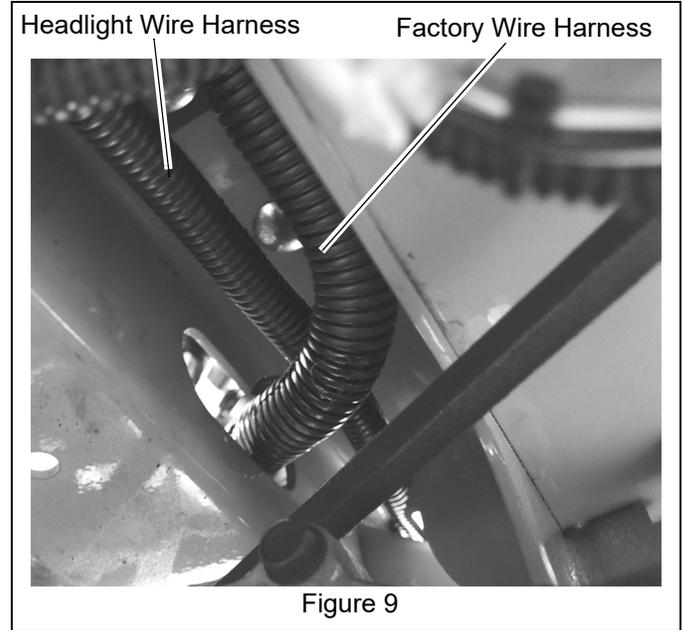

Figure 9
12. From under unit, route headlight harness above factory wire harness and through frame channel. See Figure 9.